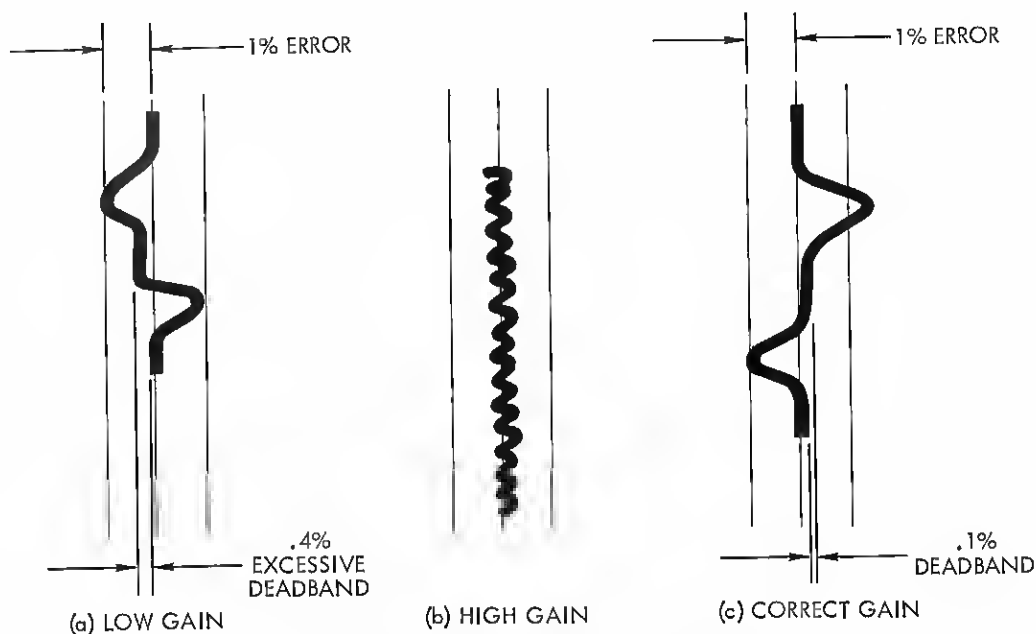

FIGURE 5-3. GAIN ADJUSTMENT CHART
5. Move the pen a little (less than 0.05") from null by pushing on the pen guard manually. Then slowly release the pen using your fingers as a drag, allowing the pen to return to null. Repeat in the opposite direction. The total deviation between these lines (see figure 5-3) is called deadband and should be no more than 0.1% of full scale (approximately half the width of the ink line). The most frequent reasons for excessive deadband are: